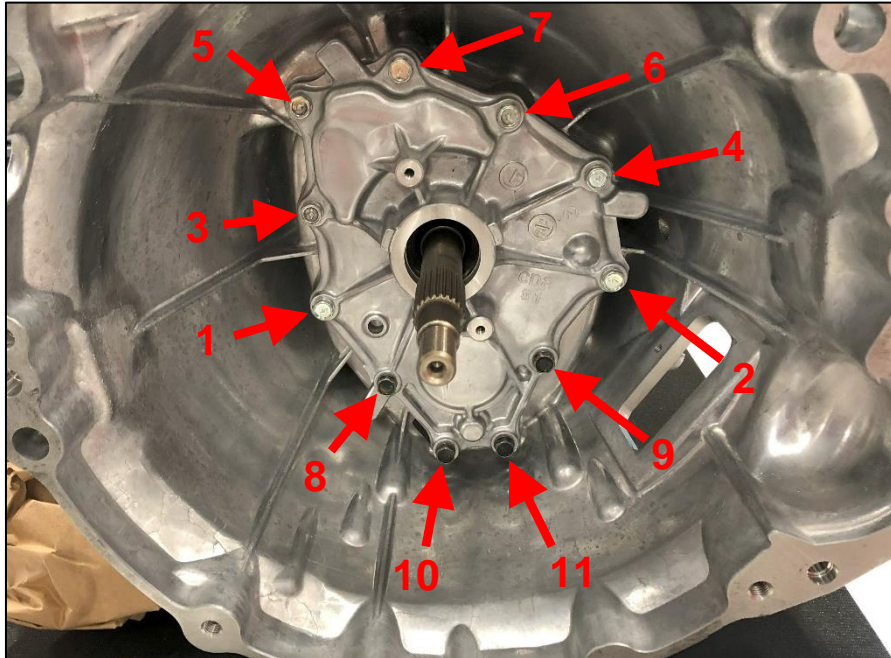

Figure 6
27. Remove and set aside mounting bolts (#1-7) and sealing bolts (#8-11). Remove and discard the OEM transmission front cover & gasket. *Figure 6.*
NOTE: Be sure to label which bolts (#8-11) are sealing bolts in accordance with *Figure 6.*
30. Tighten front cover bolts in order as shown in *Figure 6* above and torque to 13 ft-lbs. Use thread sealant on bolts #8-11.